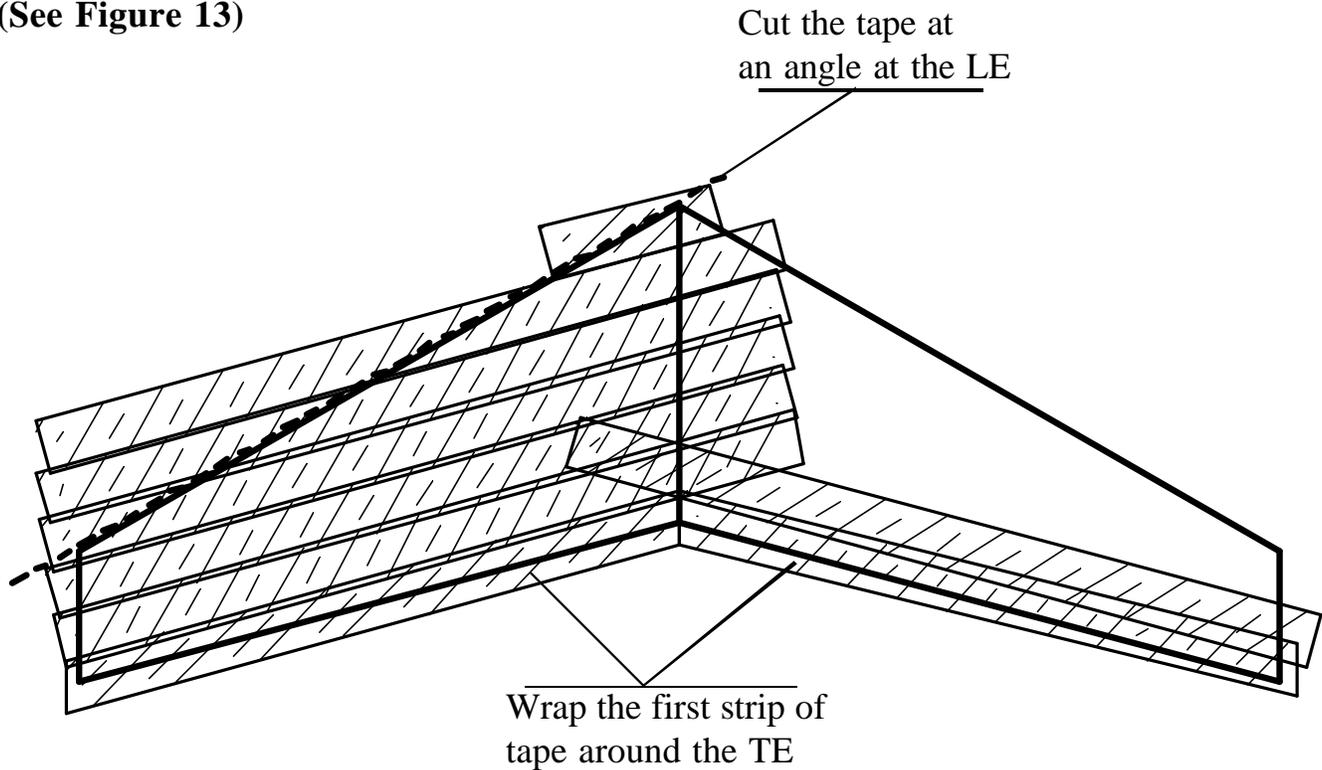

Figure 12
Spray the fiber tape with 3M Super 77 adhesive and let it dry for about 30 minutes. Start the color tape covering at the trailing edge (TE) of the wing by wrapping a strip of tape around the TE being careful to follow the shape. Work from the TE forward. Lay strips of tape from tip to at least 4 inches past the center. (See **Figure 12**)